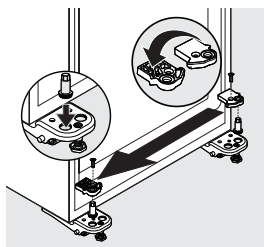

Figure 6
12. Install the bottom hinge pin in the left-hand hole of the left-hand lower hinge (see Figure 6).
13. Flip the door stopper. Reinstall the door stopper on top of the bottom hinge with the screw (see Figure 6).